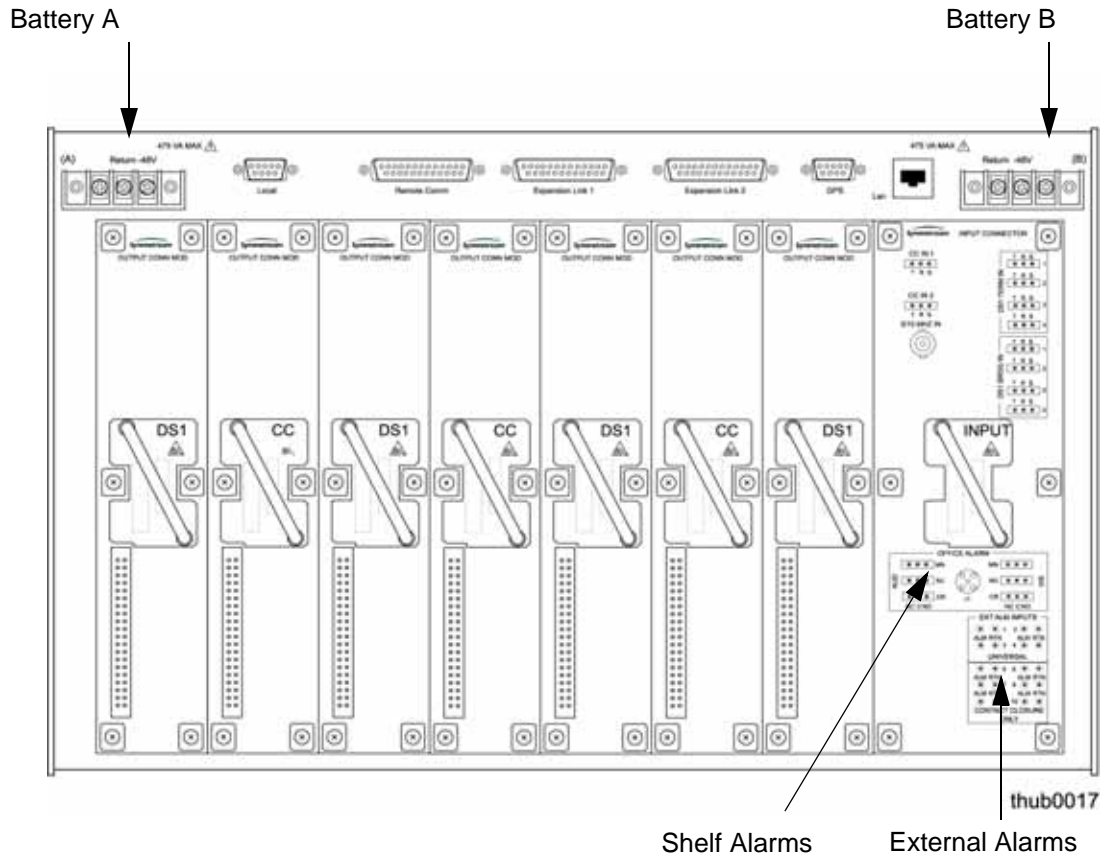
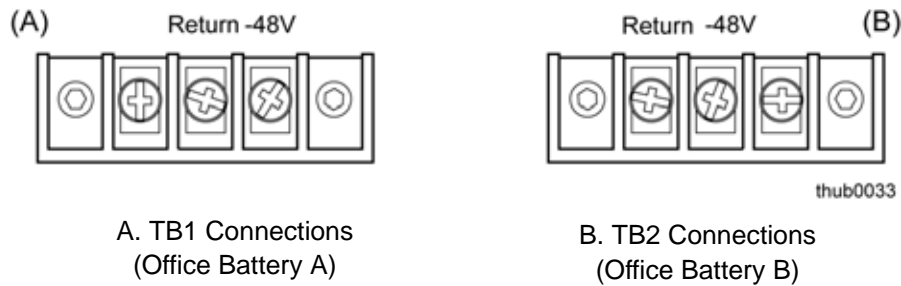

Figure 3-8. Connectors on the Rear Panel of the Master Shelf
Figure 3-10. Power and Ground Connections on the Master Shelf
2. Locate the power terminal blocks on the rear panel (Figure 3-10).
To verify that the power connections to the TimeHub 5500 Main shelf are correct, follow the steps in this section. Use a digital multimeter (Fluke 77 or equivalent) to make the measurements. Refer to Figure 3-8, Figure 3-10, and Figure 3-20. Use this procedure for Master/Remote and Expansion shelves.
3. Disconnect the -48V battery A and battery B leads from the shelf power terminal blocks TB1 and TB2 (Figure 3-10 and Figure 3-20). (Leave the Return battery leads connected to the shelf.)